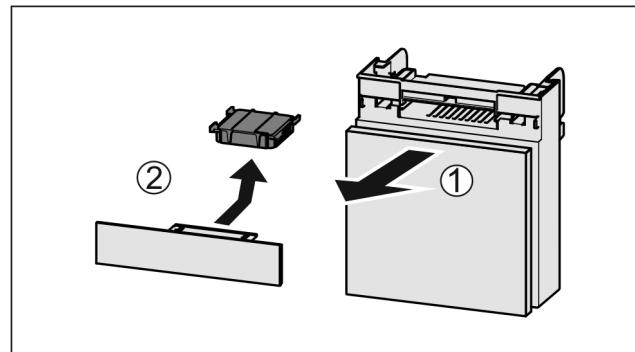

Fig. 151
- ▶ Pull out the compartment Fig. 151 (1).
- ▶ Remove the carbon filter Fig. 151 (2).